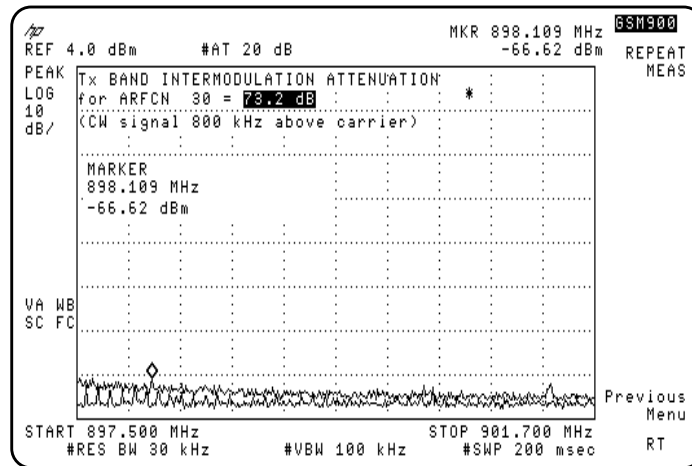

Figure 29 Example of Intermodulation Attenuation - TX Band Measurement Result
- 1 Connect the equipment as shown in Figure 29 on page 71. Press **Intermod Atten**, then **RX BAND**. If a carrier is present, the spectrum analyzer measures the carrier to determine its peak power.